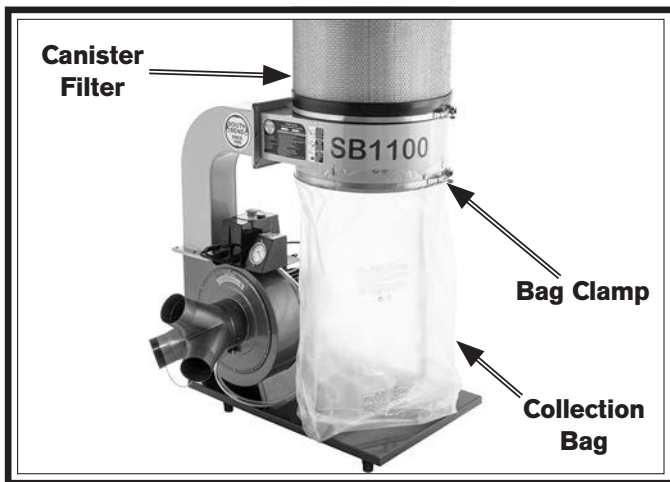

Figure 66. Filter bag components.
2. Release bag clamp around bottom of canister filter, then remove filter bag (see **Figure 66**).